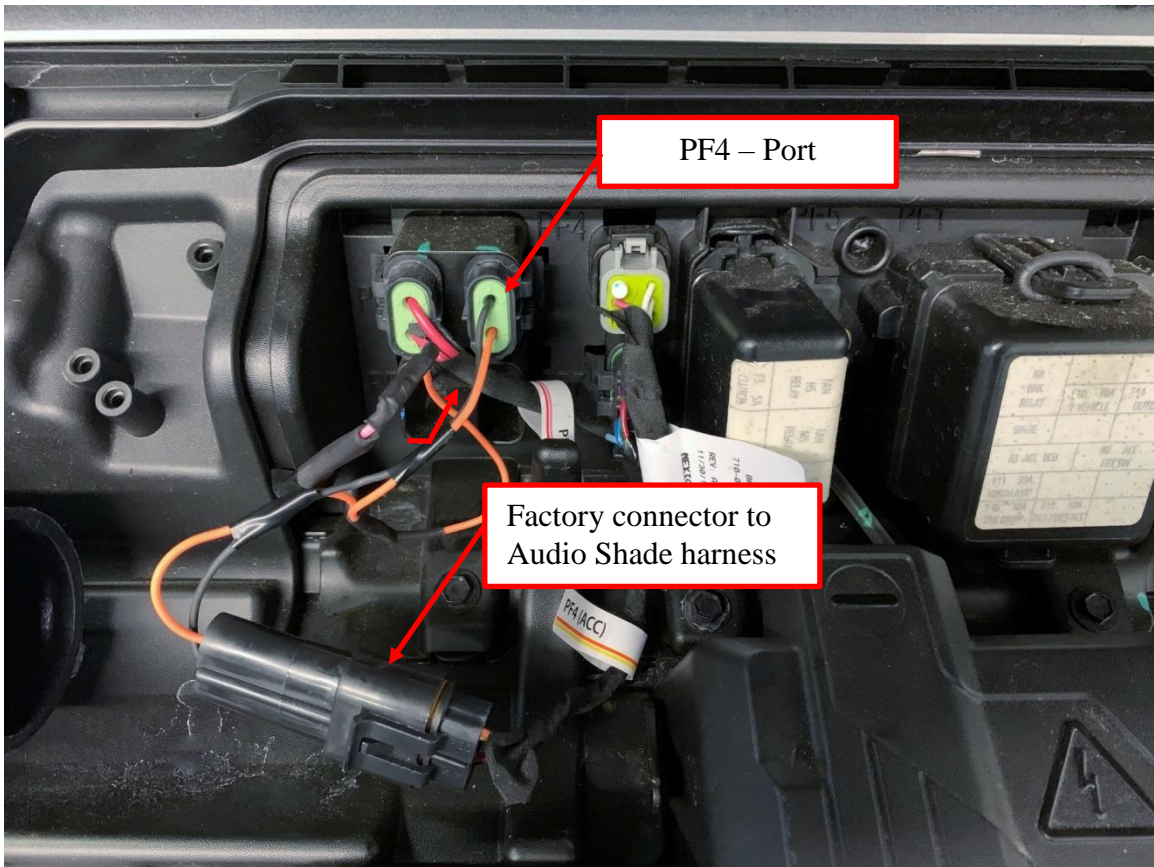

Figure 19: Attach the chassis harness and power wires.
19. Remove the 40 amp fuse from the factory fuse holder and place into the matching connector on the Audio Shade harness. This process keeps the factory fuse protection and allows the radio to turn on / off with the ignition switch. See Figure 18 and Figure 19.
20. Place the chassis connector with the fuse back into port PF4. Connect the factory fuse holder with the mating Audio Shade harness connector. See Figure 19.